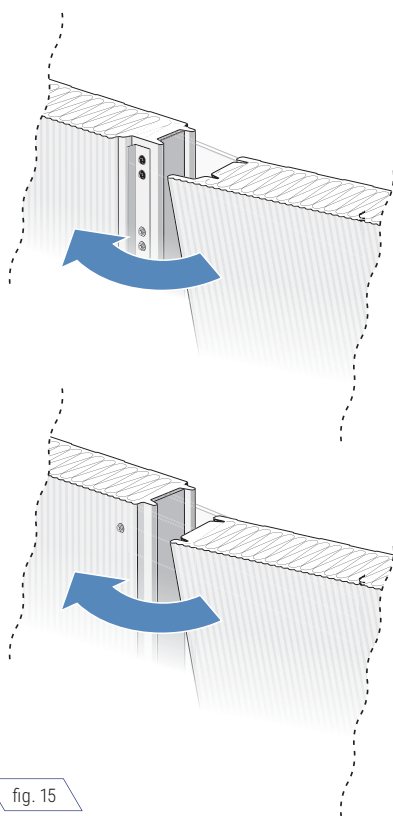

fig. 15
- Wall sandwich panels are installed acc. to tongue and groove method which accelerates installation of subsequent panels significantly; (fig. 15)